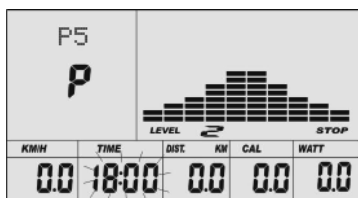

Fig 26
C. The time will flash, and then press (or rotate) UP, DOWN button to set up your desired time. Press ENTER to confirm the value. (See Fig 26)